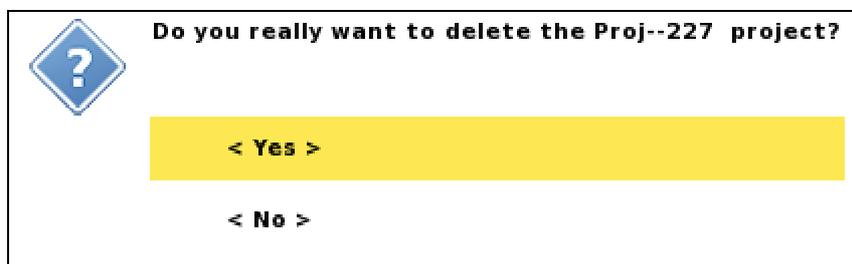

Figure 18 *Confirm Project Delete dialog*
- **Delete:** A confirmation dialog is shown and the *Project* will be deleted if the user confirms the deletion (Figure 18)